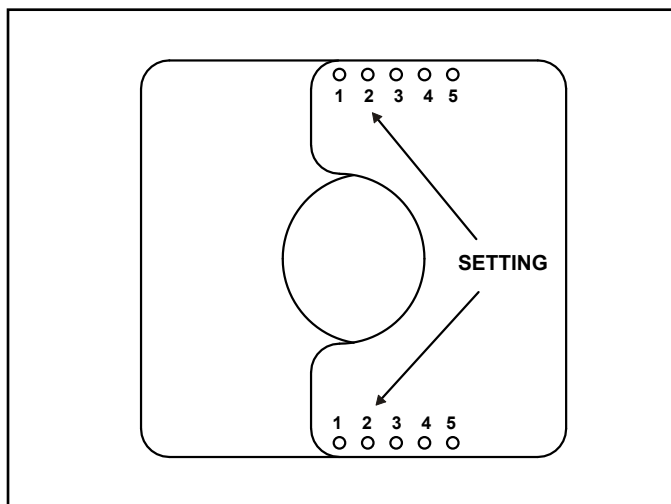

Figure 4.15 Set the Exhaust Restrictor
3. The setting for ECHEL36IN, ECHEL48IN, ECHEL60IN and ECHEL72IN is 2-2. Align the holes marked "2" on the numbered exhaust restrictor piece with the hole on the other exhaust restrictor piece. See Figure 4.15. Align the exhaust restrictor pieces with the pilot holes in the inner firebox chamber. Use two 1/2 inch self-piercing screws to secure vent restrictor to firebox heat shield.
2. The setting for ECHEL36STIN and ECHEL48STIN is a 2.5 inch setting, or 2-2. Align the holes marked "2" on the numbered exhaust restrictor piece with the hole on the other exhaust restrictor piece. See Figure 4.15. Center the exhaust restrictor on the vent and secure in place with two 1/2 inch self-piercing screws.